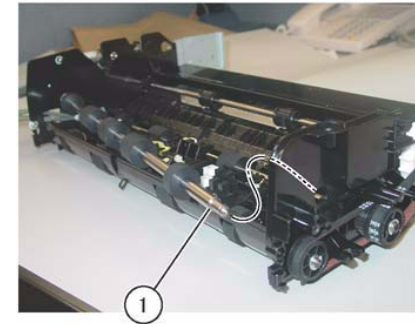

Figure 8 Takeaway Roll Removal
17. Remove the Takeaway Roll. (Figure 8)